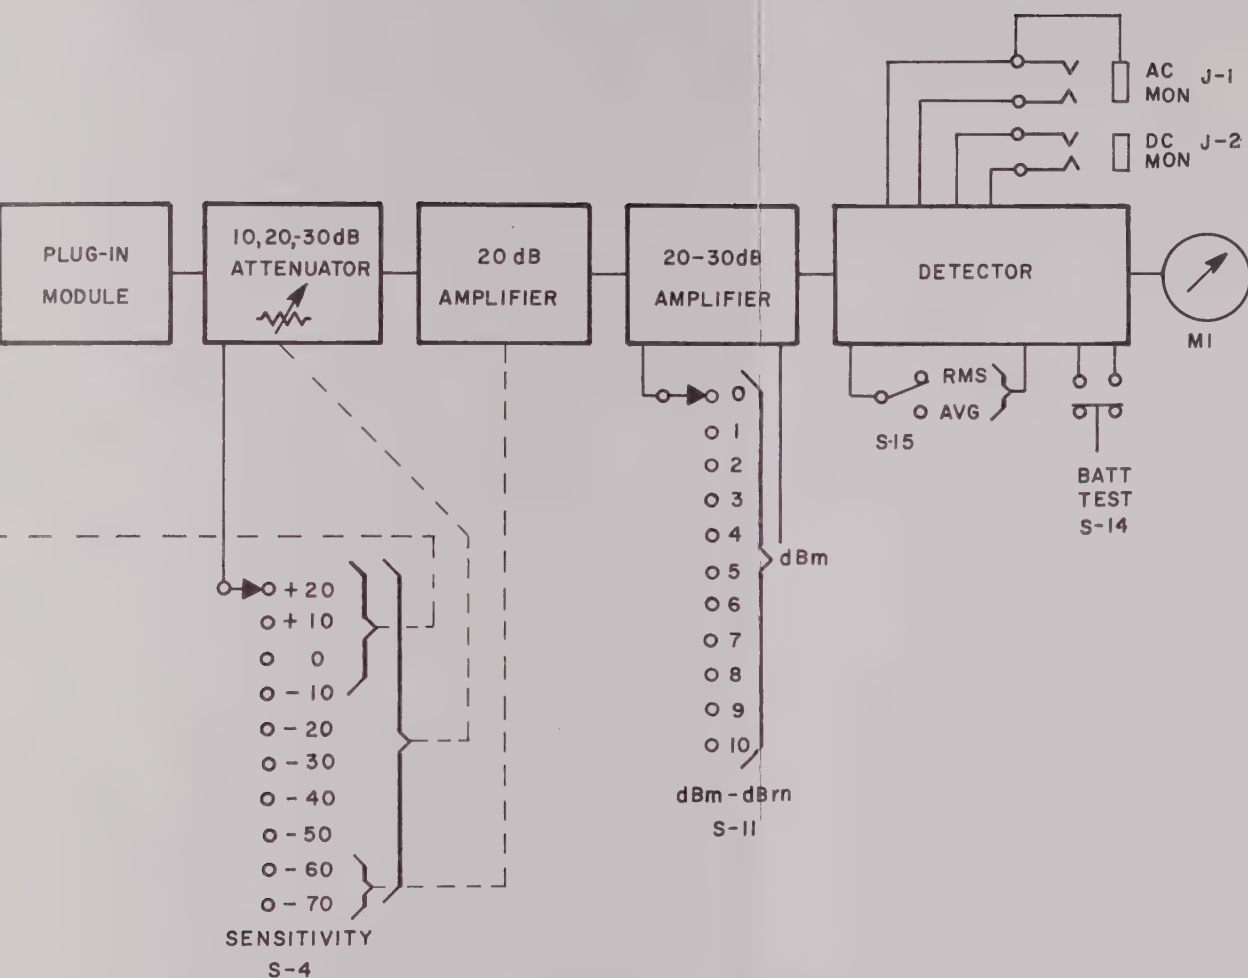

Fig 3-1 TTS 37E Block Diagram
3.2 BLOCK DIAGRAM CIRCUIT DESCRIPTION (See Fig. 3-1.)